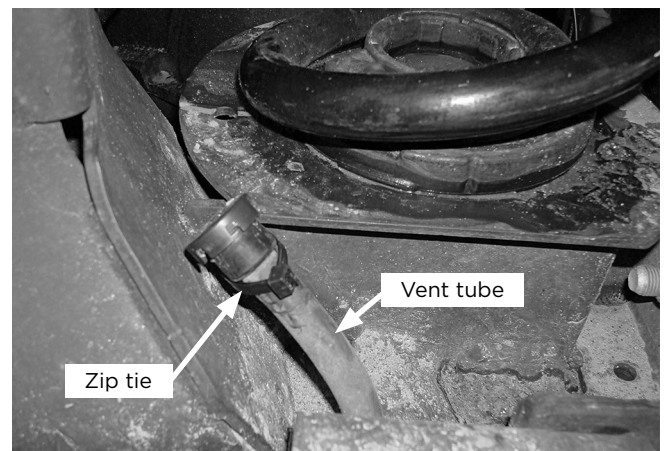

Fig. 5
3. Insert the zip tie into the small hole in the lower coil spring seat, then around the vent tube and snug the zip tie enough to angle the tube out of the way (Fig. 5).